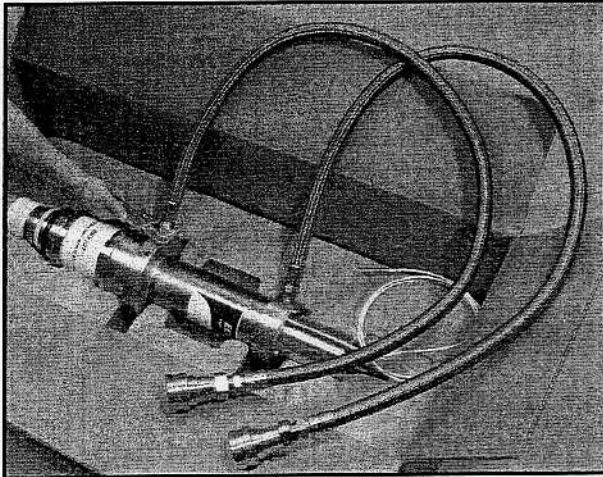

Fig. 29c
9. Remove the hoses from the tube using the spanner supplied with the circuit assembly (see Fig. 29c). It is prudent to lay absorbent paper or rags around the base of the tube collector to catch any coolant spillage while the hoses are being removed.